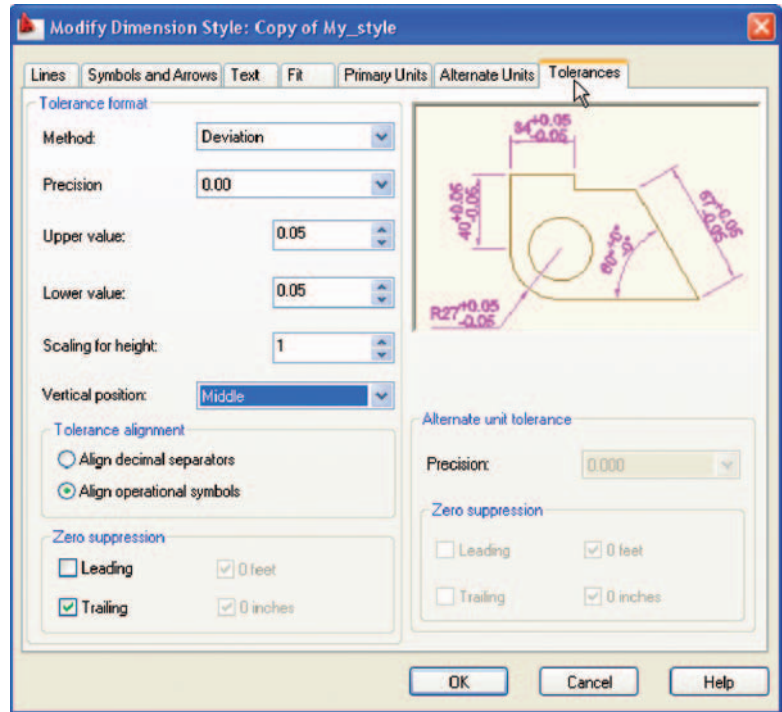

Fig. 6.17 The **Tolerances** subdialog of the **Modify Dimension Style** dialog
2. Click the **Modify...** button of the dialog, followed by a *left-click* on the **Primary Units** tab and in the resulting sub-dialog make settings as shown in Fig. 6.17. Note the changes in the preview box of the dialog.